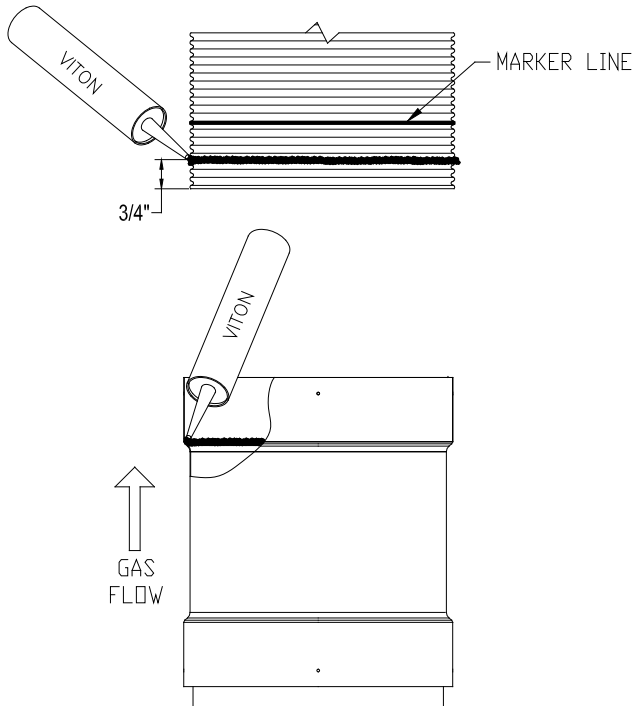

Figure 18 -SecureSeal Flex Viton- caulking
2.1. Add a bead of Viton® caulking (resistance to condensate) all around inside the adapter on the beginning of the flare. Add another bead of Viton® caulking all around the outside of the flexible liner at 3/4" from the edge (Figure 18).